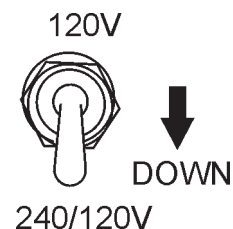

Figure 18. Full Power Switch (Down)
- Place the **full power switch** (Figure 18) in the "240/120V" (Down) position.